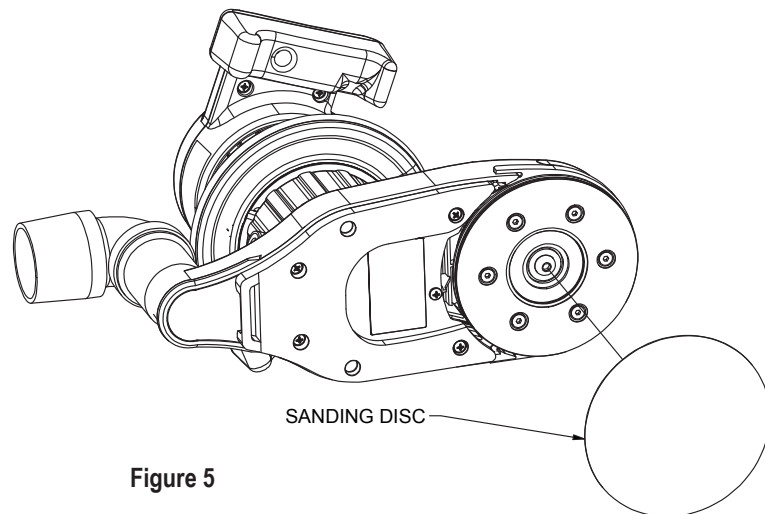

Figure 5
2. The machine will only accept hook and loop abrasive discs. When installing abrasive disc, take care to center disc on driver (Figure 5).